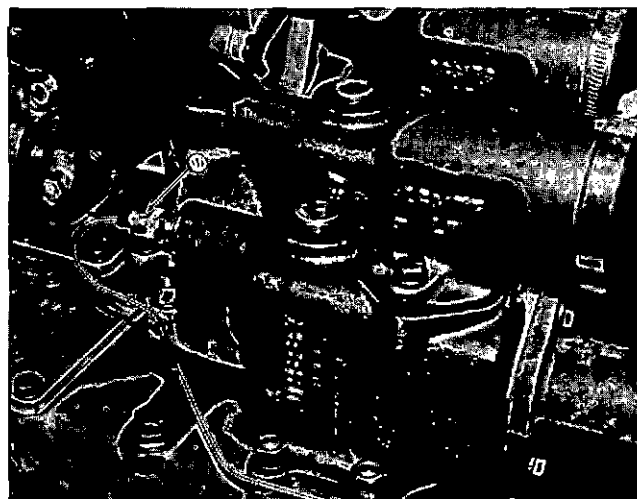

Fig. 8-8-1, V40818. Temperature gauge bulb location
1. The sensing unit of the water temperature gauge (1, Fig. 8-8-1) must be located on engine side of thermostat so bulb is in water flow.